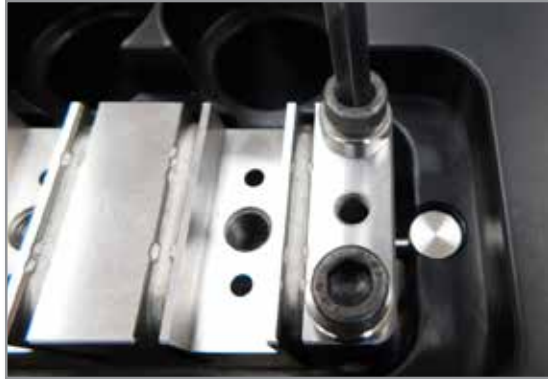

Figure 5-98 Install washers and bolts
5. Install the four titanium washers and the four M6 bolts. Torque to 14 Nm (10 ft.-lb). See Figure 5-98.